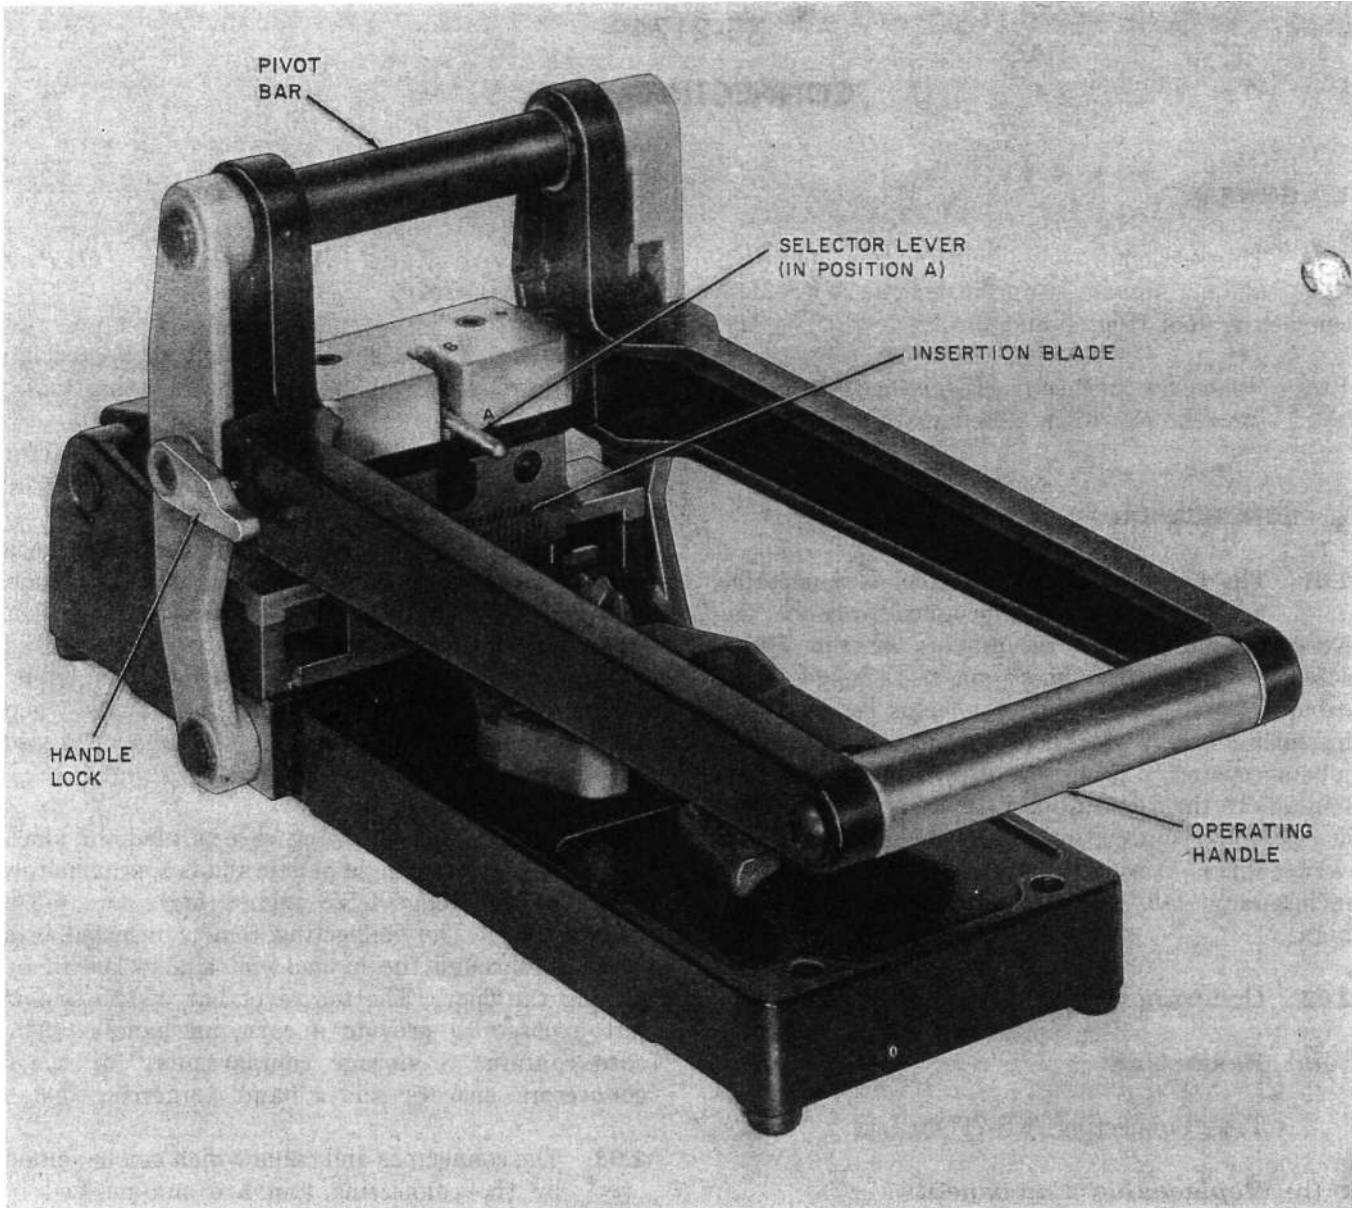

Fig. 1—KS-21749 Connecting Tool, Front View With Handle Closed
**1.01** This section provides identification, operation, and maintenance information on the KS-21749 connecting tool (Fig. 1 and 2).
- Insertion blade (Fig. 1) not bent; replace if necessary (4.04)
- (a) Unlock the handle of the insertion tool by flipping the lock up and back from the locking pin (Fig. 1).